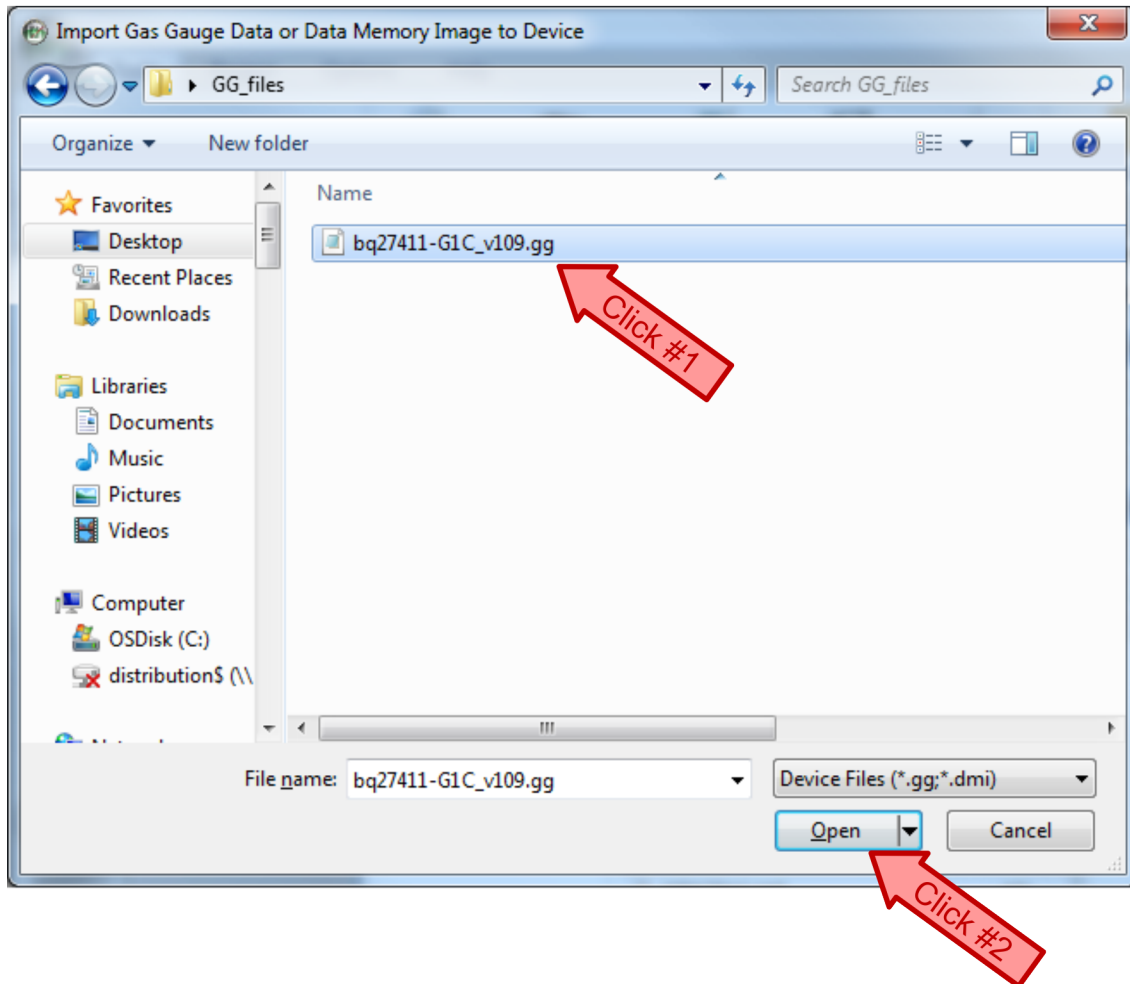

Figure 2. Load .GG File
1. Browse to a click desired template or sample *.GG parameter file. (Example: bq27411-G1C_v109.gg shown in Figure 2.)